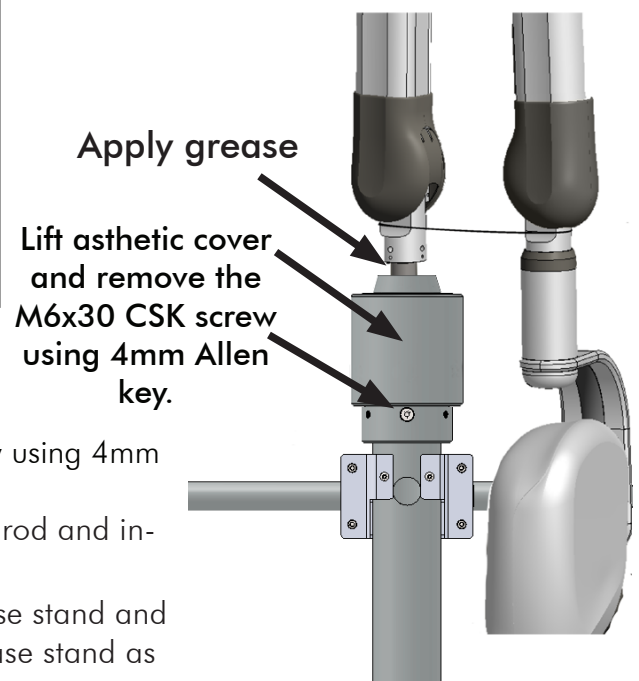

Figure 6
- Lift aesthetic cover and remove the M6x30 CSK screw using 4mm Allen key as shown in Figure 6.
- Apply thin layer of Grease to the Scissor-Arm guide rod and inner area of base stand as shown in Figure 6.
- Insert the scissor-arm cables into top hole of the base stand and simultaneously pull out from the front hole of the base stand as shown in Figure 6 (If required use the guide wire).